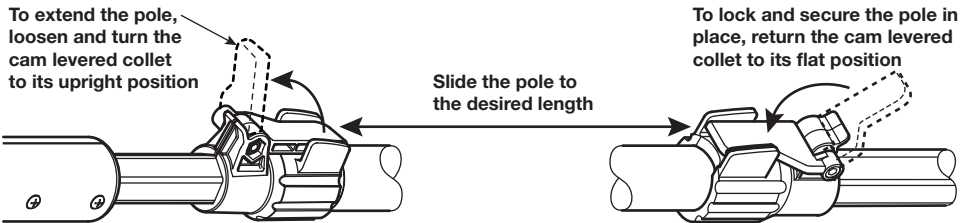

Fig. 16 How to Adjust the Length of the Pole Saw
- To extend the pole, loosen and turn the cam levered collet to its upright position (Fig. 16).